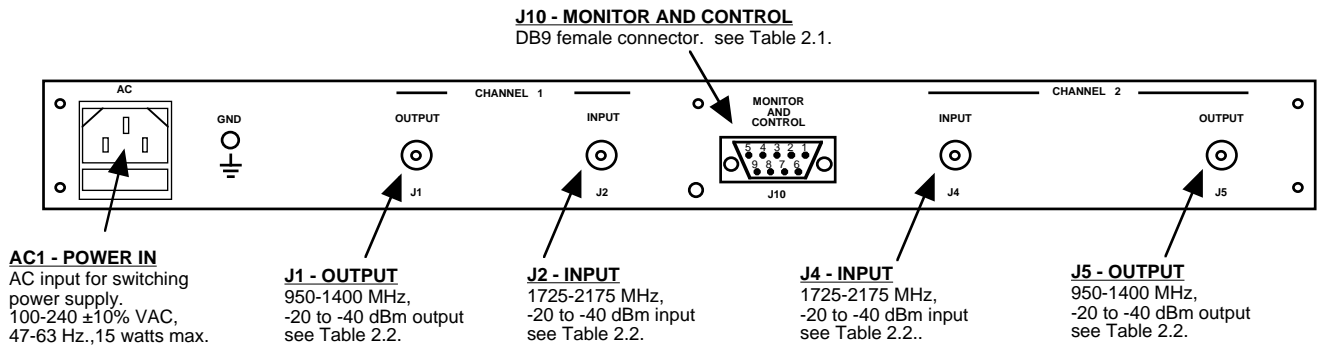

FIGURE 2.1 2083-2215-01 Rear Panel I/O's
Figure 2.1 shows the input and output connectors on the rear panel.
1. Connect a -20 dBm to -40 dBm signal to IN, J4 (Figure 2.1)